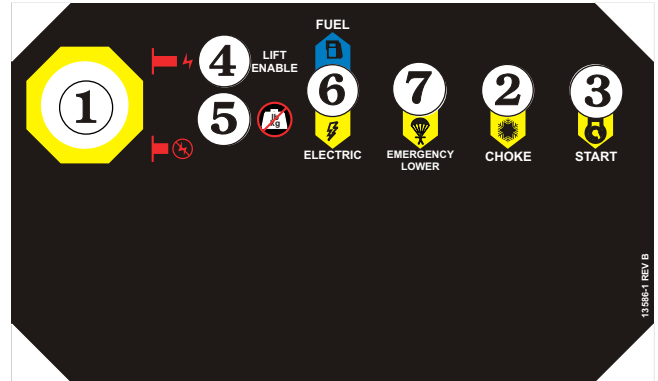

Figure 8.7 - Upper Control Box Controls - Non-Insulated Fibreglass Basket
8. **Platform Movement Levers:** Items 1 through 5 (see Figure 8.7) are the platform moving control levers.